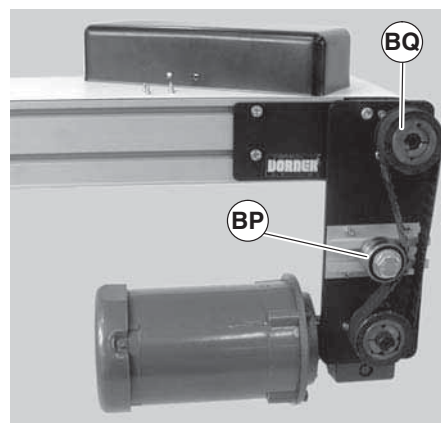
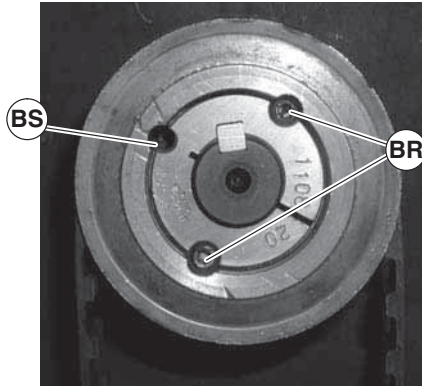

Figure 51
Figure 52
- c. Loosen tensioner (Figure 51, item BP).
- d. Remove taper-lock screws (Figure 52, item BR) on the driven pulley (Figure 51, item BQ). Insert one (1) of taper lock screws (Figure 52, item BR) in remaining hole (BS). Tighten screw (BR) until pulley is loose. Remove pulley, taper hub assembly and timing belt.